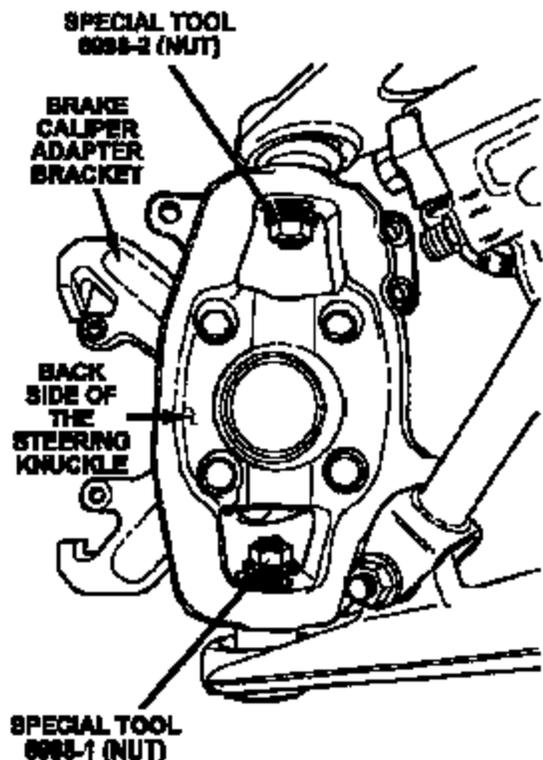

Figure 2
11. Loosely install the special tool nuts onto the ball joint studs (Figure 2).